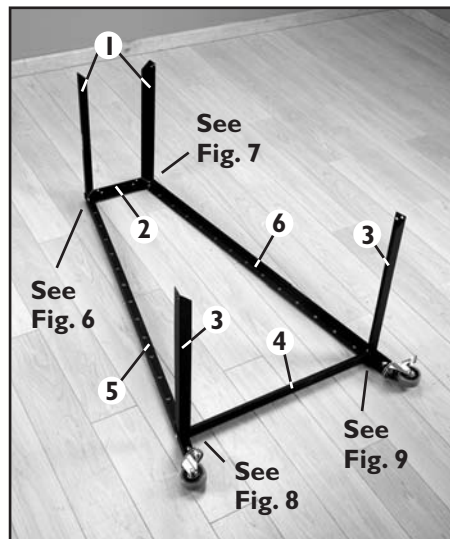

Fig. 10
9. At this point your assembly should look like **Fig. 10.**